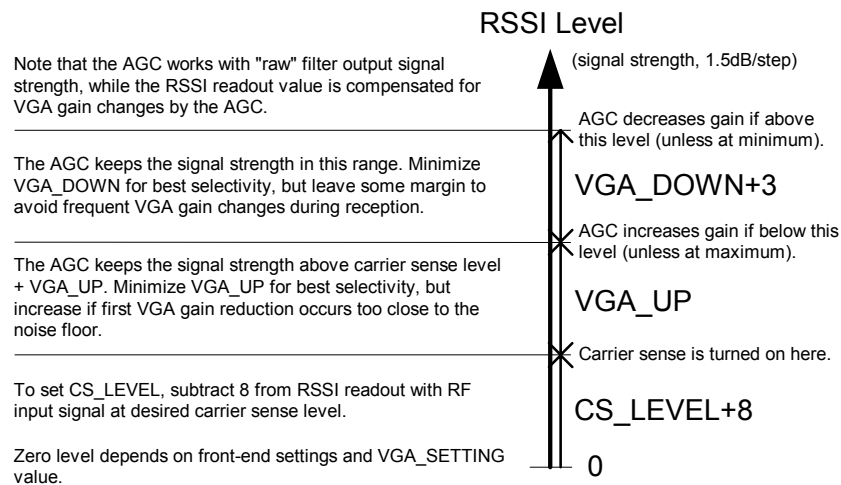

Figure 20. Relationship between RSSI, carrier sense level, and AGC settings *CS_LEVEL*, *VGA_UP* and *VGA_DOWN*
A digital RSSI is used to measure the signal strength after the ADC. The *CS_LEVEL[4:0]* in the *VCA4* register is used to set the nominal operating point of the gain control (and also the carrier sense level). Further explanation can be found in Figure 20.
5. If desired, adjust the *VGA_UP* and *VGA_DOWN* settings according to the explanation in Figure 20.
CS_LEVEL[4:0] sets the threshold for this specific *VGA_SETTING[4:0]* value. If the *VGA_SETTING[4:0]* is changed, the *CS_LEVEL[4:0]* must be changed accordingly to maintain the same absolute carrier sense threshold. See Figure 20 for an explanation of the relationship between RSSI, AGC and carrier sense settings.